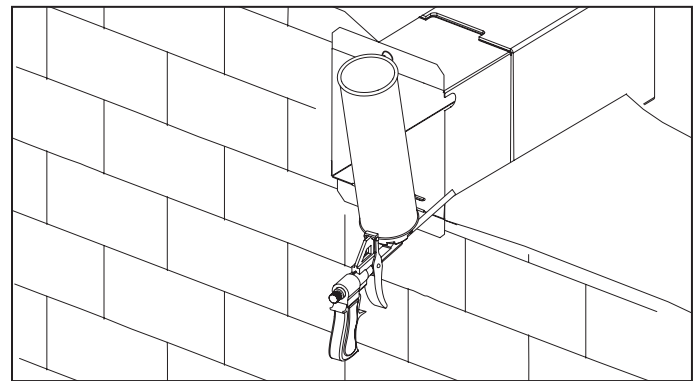

Fig. 12. Size of the core hole
4. Fill the gaps between the wall and the telescopic air duct with a mounting foam, Fig. 12.